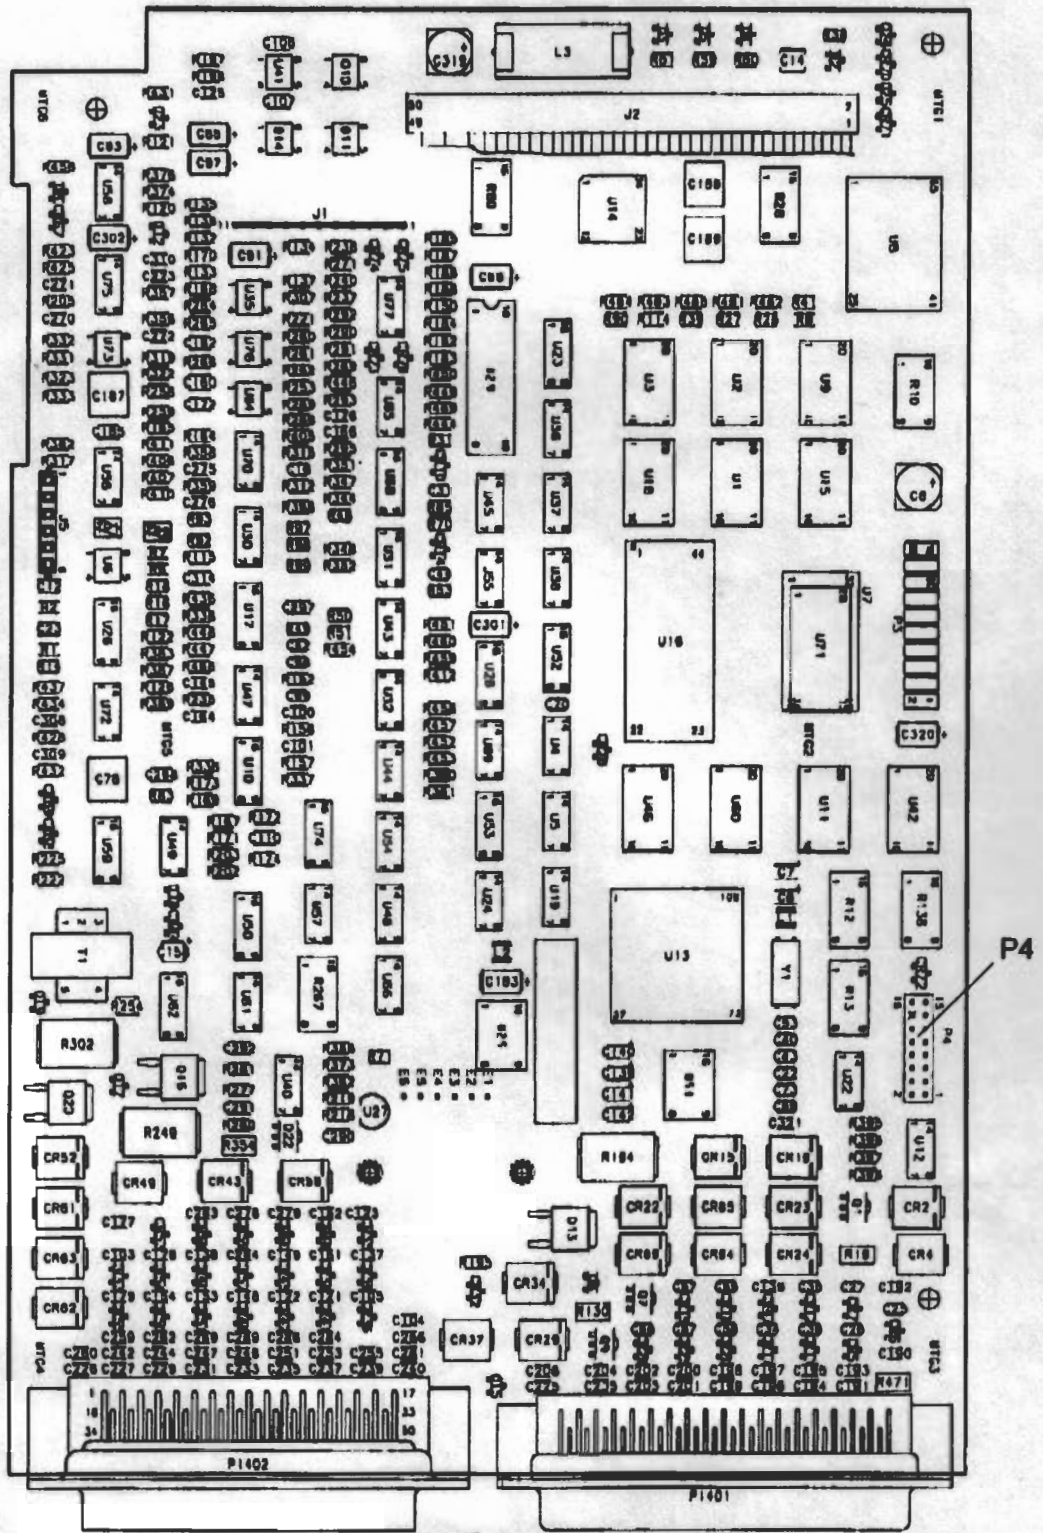

Figure 2
6. Connect the ribbon cable from the Programming Interface Box to P4 on the Main Board. See Figure 2 for the location of P4.